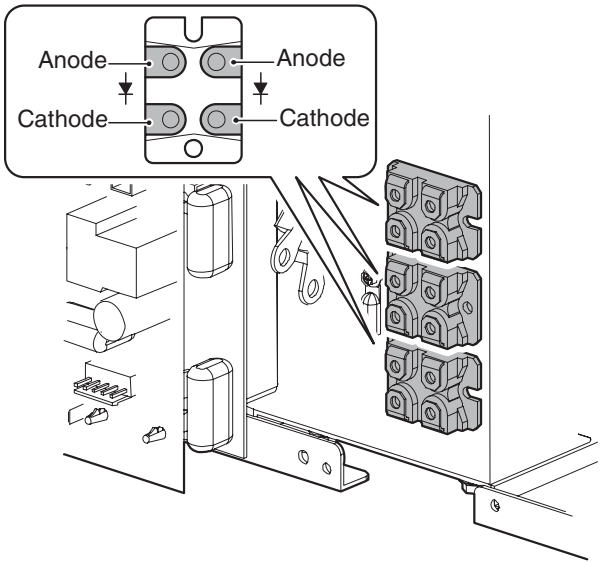

Figure 6-15: Tester checkpoints in D2, D4 and D5
- 2. Refer to Table 6-6 and Figure 6-15 for the checkpoints on D2, D4 and D5.